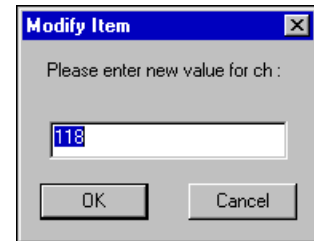

Figure 3-28 The Modify Item window
3. Select **Edit value** from the Watch window menu. The Modify Item window is displayed (Figure 3-28).